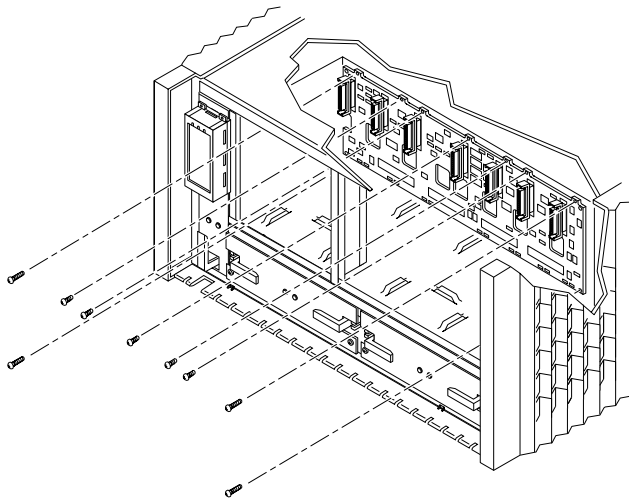

FIGURE 7-16 Removing the Screws From a Disk Drive Backplane
7. Use a Phillips screwdriver to remove the screws securing the disk drive backplane (FIGURE 7-16).